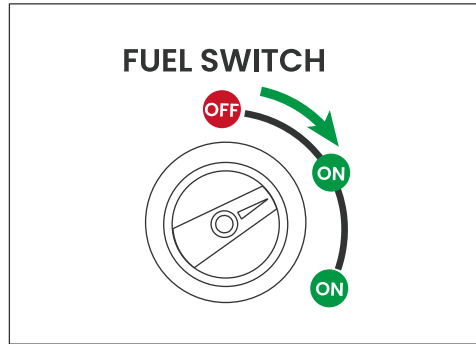

Fig.12
- Turn the fuel switch to the "ON" position (see Fig.12).